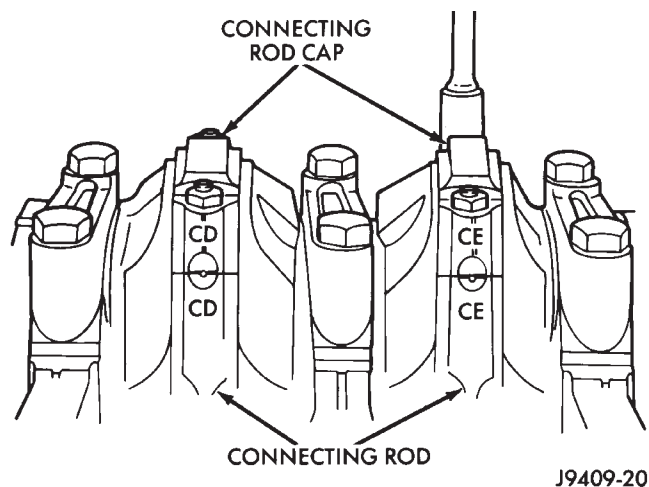

Fig. 55 Stamped Connecting Rods and Caps
(1) Remove the engine cylinder head cover.
(2) Remove the rocker arms, bridges and pivots.
(3) Remove the push rods.
(4) Remove the engine cylinder head.
(5) Position the pistons one at a time near the bottom of the stroke. Use a ridge reamer to remove the ridge from the top end of the cylinder walls. Use a protective cloth to collect the cuttings.
(6) Raise the vehicle.
(7) Drain the engine oil.
(8) Remove the oil pan and gasket.
(9) Remove the connecting rod bearing caps and inserts. Mark the caps and rods with the cylinder bore location. The connecting rods and caps are stamped with a two letter combination (Fig. 55).